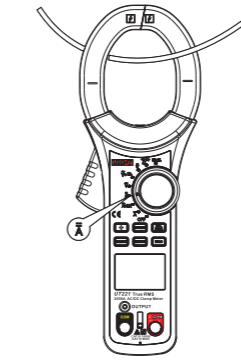

Figure 9
7. DC current measurement (\bar{A}) (See Figure 9)